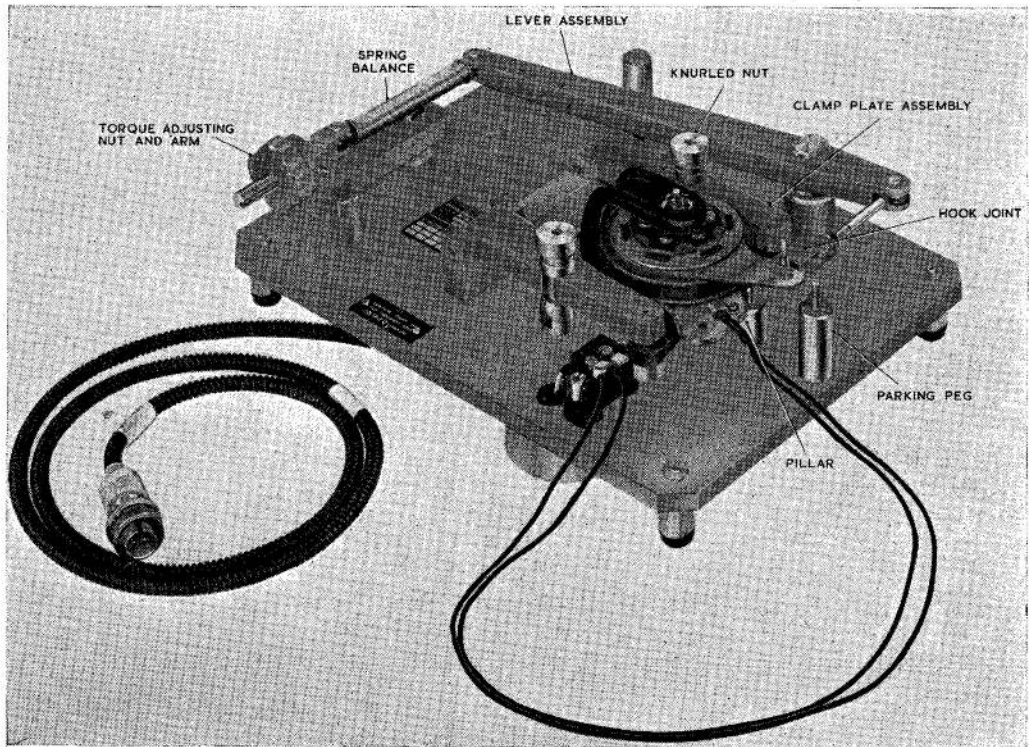

Fig. 1. Clutch torque jig
8. Mount the clutch on the clutch torque jig 3D2035 (fig. 1) and connect the two leads from the clutch to the terminals on the torque jig.
10. Move the lower clutch arm into contact with the pillar (fig. 1) on the jig.
12. Secure the clutch in torque jig as shown in fig. 1.
13. Turn the torque adjusting nut (fig. 1) to the right to increase the load on the friction clutch, which shall slip between 7 and 10 lb. on the spring balance (70 to 100 lb/in on friction clutch).
15. Release the two knurled nuts (fig. 1), securing the clamp plate assembly and lift the assembly from the clutch. Remove lock joint (fig. 1) from upper actuator arm bolt and place on parking peg (fig. 1).